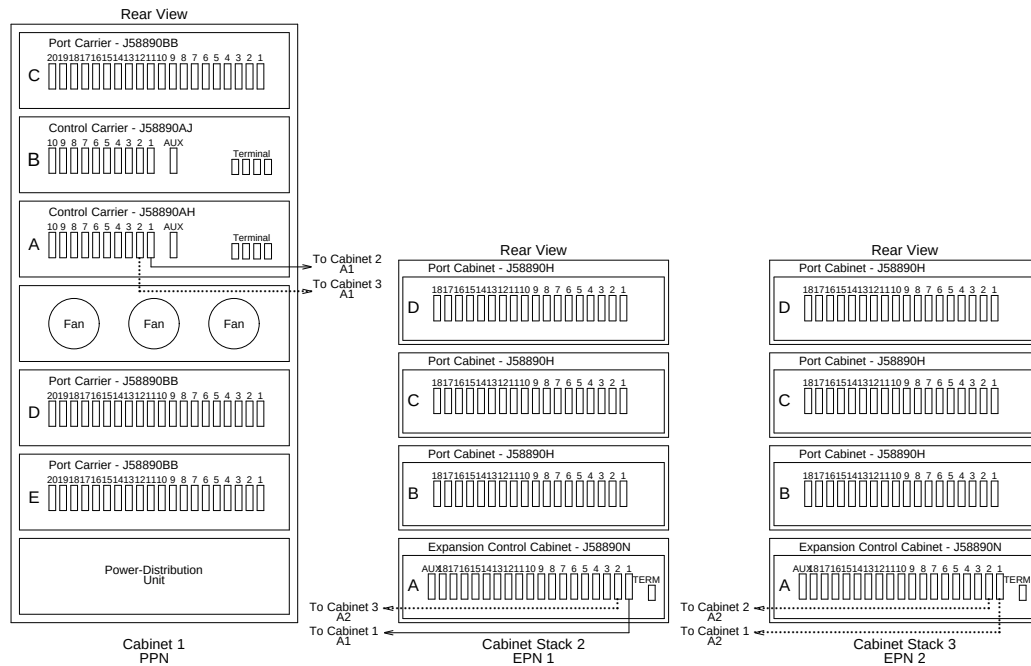
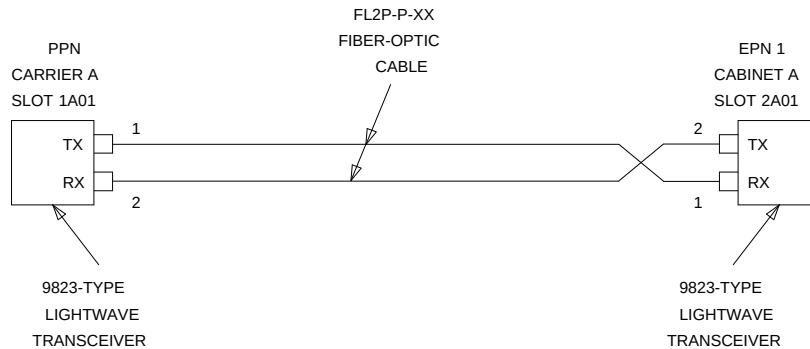
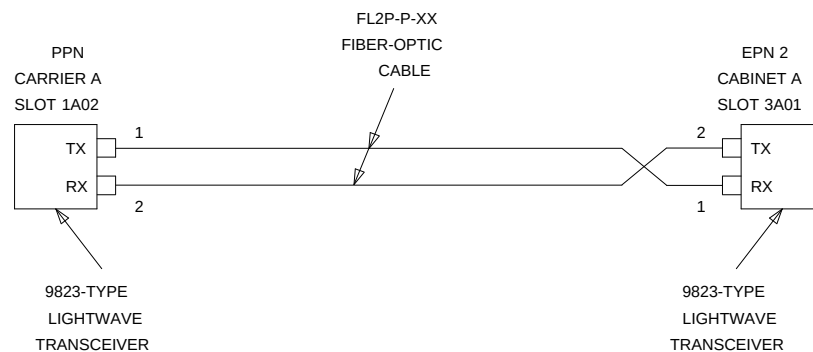
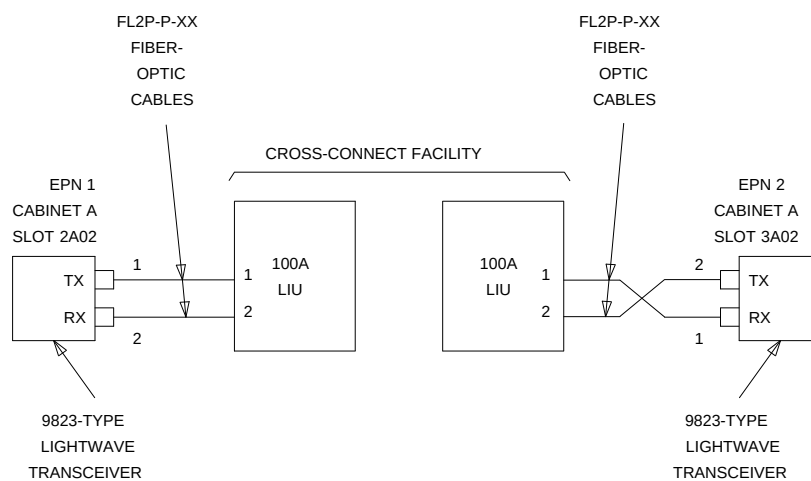

Figure 8-20. High-Reliability DEFINITY ECS Release 5 with Two or Three Port Networks
Figure 8-21. Fiber-Optic Connections PPN to EPN1
Figure 8-22. Fiber-Optic Connections PPN to EPN2
Figure 8-23. Fiber-Optic Connections EPN1 to EPN2
The connectors on the lightwave transceivers are labeled either "TX" (transmit) or "RX" (receive), while the fibers attached to each connector are numbered either "1" or "2." A viable fiber connection is only made when both fibers in each cable (that is, "1" and "2") route from the "TX" connector of a port network to the "RX" connector of its adjacent port network. For an example, refer to Figure 8-21.
1. Behind control carrier A of the multicarrier PPN (see Figure 8-20 on page 8-45, Figure 8-21, Figure 8-22, and Figure 8-23):